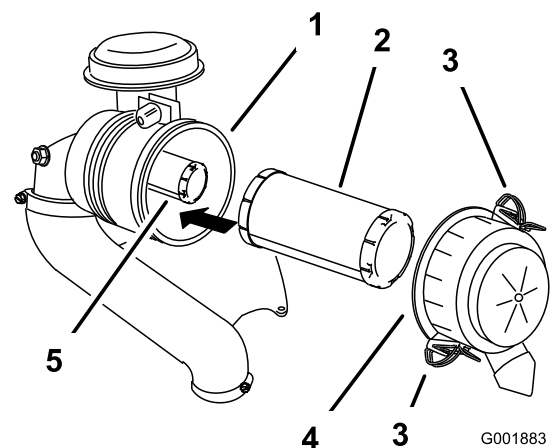

Figure 34
3. Release the latches on the air cleaner and pull the air-cleaner cover off the air-cleaner body (Figure 34).
- Gently slide the primary filter out of the air-cleaner body (Figure 34).
- If you are replacing the inner filter, carefully slide it into the filter body (Figure 34).
- Carefully slide the primary filter over the safety filter (Figure 34).
- Install the air-cleaner cover and secure the latches (Figure 34).